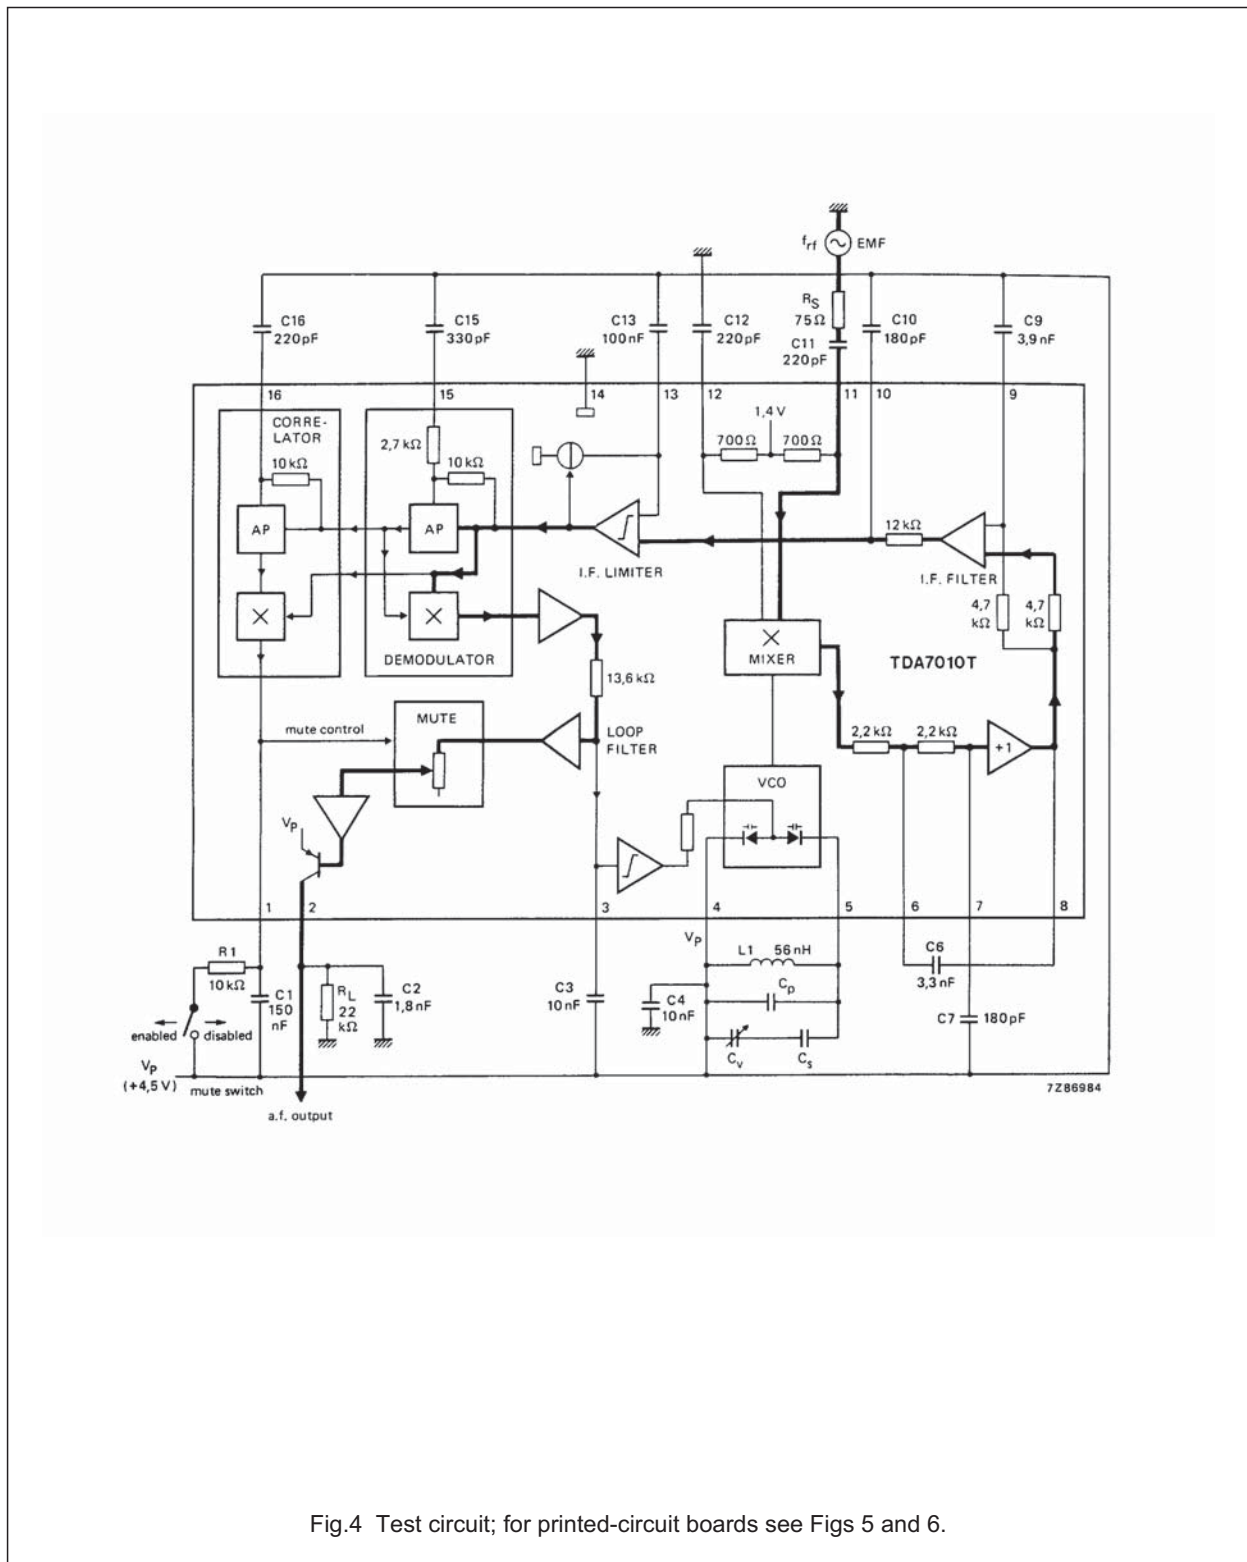

Fig.4 Test circuit; for printed-circuit boards see Figs 5 and 6.
**D.C. CHARACTERISTICS** $V_P = 4,5$  V;  $T_{amb} = 25$  °C; measured in Fig.4; unless otherwise specified
$V_p = 4,5 \text{ V}$ ;  $T_{amb} = 25 \text{ }^\circ\text{C}$ ; measured in Fig.4 (mute switch open, enabled);  $f_{rf} = 96 \text{ MHz}$  (tuned to max. signal at  $5 \mu\text{V}$  e.m.f.) modulated with  $\Delta f = \pm 22,5 \text{ kHz}$ ;  $f_m = 1 \text{ kHz}$ ;  $EMF = 0,2 \text{ mV}$  (e.m.f. voltage at a source impedance of  $75 \Omega$ ); r.m.s. noise voltage measured unweighted ( $f = 300 \text{ Hz}$  to  $20 \text{ kHz}$ ); unless otherwise specified.